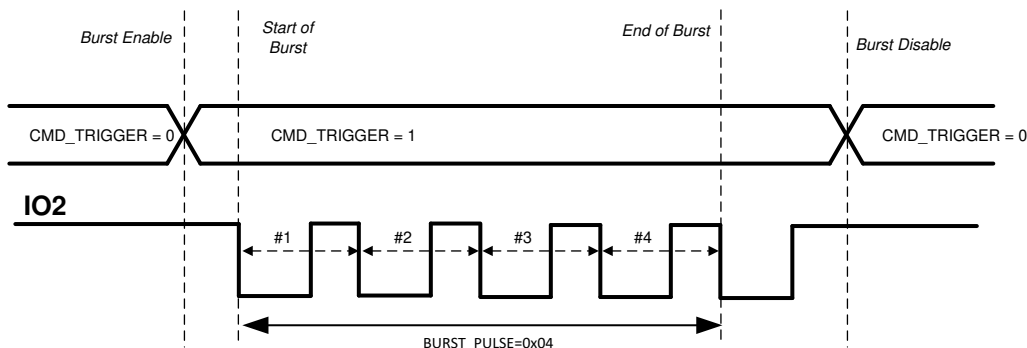

图 15. IO_MODE 0 Description
- **IO_MODE = 0:** In this mode, the external clock for the transducer is applied at the IO2 pin and the burst mode is enabled by setting the CMD_TRIGGER in the TOF_CONFIG register through SPI, as shown in 图 15. The device then expects a clock at IO2 pin to generate pulses on the OUTA/OUTB pins. The start of burst happens from the first falling edge of IO2. The number of pulses are counted by counting falling edge to next falling edge transitions on IO2 once the start of burst is triggered. The end of burst sequence is signaled when the number of pulses defined in BURST_PULSE are sent, or when the CMD_TRIGGER = 0 is set through SPI, whichever occurs earlier. TI recommends that IO2 is held high before burst enable to count the number of pulses correctly. After the start of burst, the state of OUTA and OUTB pins are determined by IO1 and IO2 pins as shown in 表 22. A transition of CMD_TRIGGER from high to low to high again is required to initiate a new burst sequence.